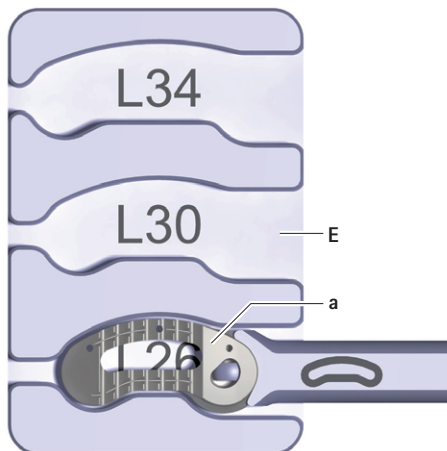

Fig. 9 Implant in filling holder
- ▶ Place implant **a** in filling holder **E**, see Fig. 9. When doing so, observe the implant length (marking on the filling holder: L26/L30/L34).